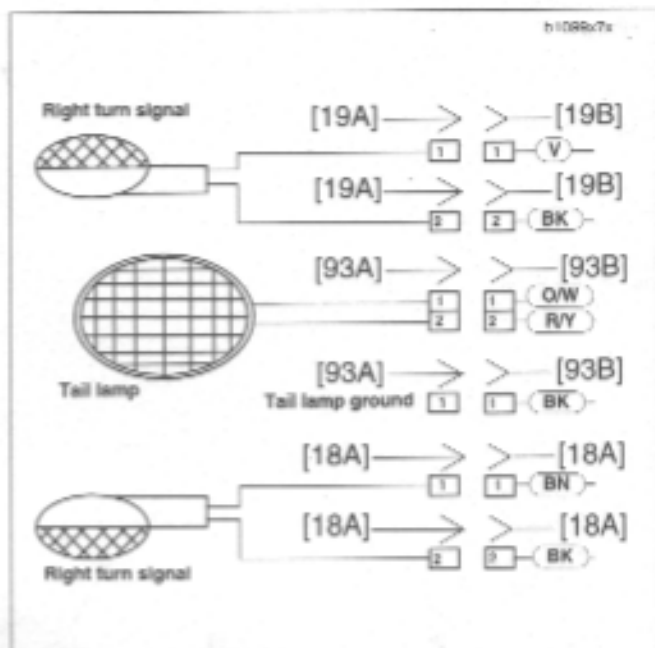

Figure 7-49. Rear Turn Signal Connections
3. See Figure 7-49. Disconnect bullet connectors on turn signal wires.
1. See Figure 7-49. Insert bullet connectors through license plate bracket (4) and tail section (7).
2. Install reflector bracket (3).
- a. Place license plate bracket into position over threads on turn signal (1).
3. Attach turn signal using lockwasher (5) and fastener (6). Tighten fastener to 25-28 in-lbs (2.8-3.2 Nm).
4. Attach bullet connectors on turn signal wires as shown in Figure 7-49.